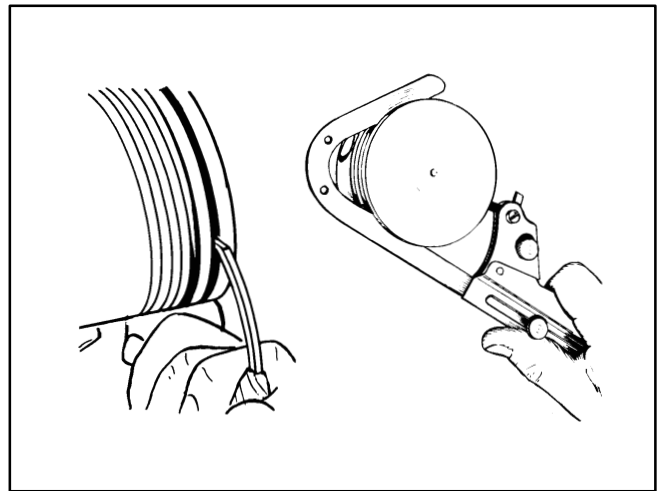

FIGURE 7-14. PISTON RING GROOVE CLEANER
7. Remove deposits from the piston surfaces with an approved cleaning solvent. Clean the piston ring grooves with a groove cleaner or with the end of a piston ring filed to a sharp point (Figure 7-14). Take care not to remove metal from the sides of the grooves.